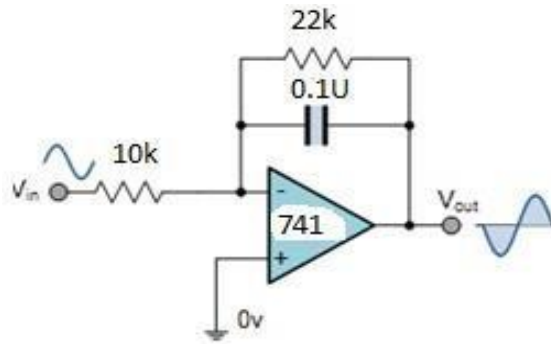

Figure 2
1. Connect the components/equipment as shown in the circuit diagram Figure 2.